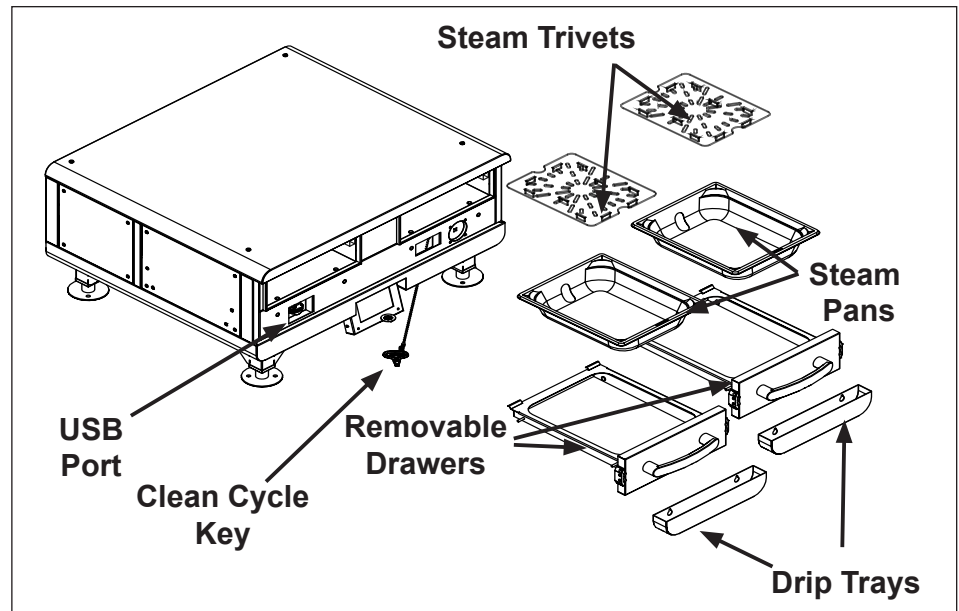

Figure 10. Steamer Components
The InfiniSteam requires a minimal amount of maintenance. Daily maintenance helps keep the steamer running smoothly and free of any excess buildup that comes from daily use and wear. These steps should be completed at the end of every day to ensure that the steamer maintains optimum efficiency. Open the drawers and remove the steam pans and steam trivets (Figure 10).
1. Remove the drip trays (Figure 10).
5. Reinstall all parts (Figure 10).